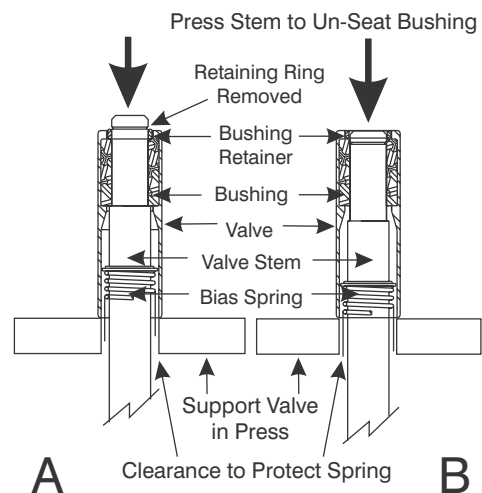

Figure 8-14. Valve Stem and Components in Arbor Press.
4. Refer to Figure 8-14-A, and position the Valve Stem (11) and its assembled components in an arbor press.
- Support the edges of the Valve (3) with standard blocking. Allow the Valve Stem to hang freely below the blocking.
- The Bias Spring (9) should be clear of the blocking and the press. Make sure the Spring is not crimped or bent during pressing.
- Place the plunger of the arbor press against the tip of the Valve Stem (11) protruding above the Valve.
5. Press the Valve Stem (11) from the assembled Valve (3), Bushing Retainer (5) and Valve Bushing (6) as shown in Figure 8-14-B.